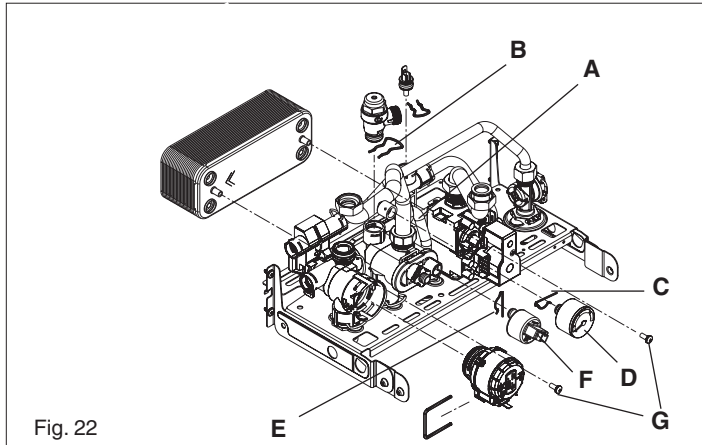

Fig. 22
6.6 SAFETY VALVE (fig. 22)
6.8 WATER PRESSURE SENSOR AND GAUGE (fig. 22)
6.19 DHW HEAT EXCHANGER (fig. 22)